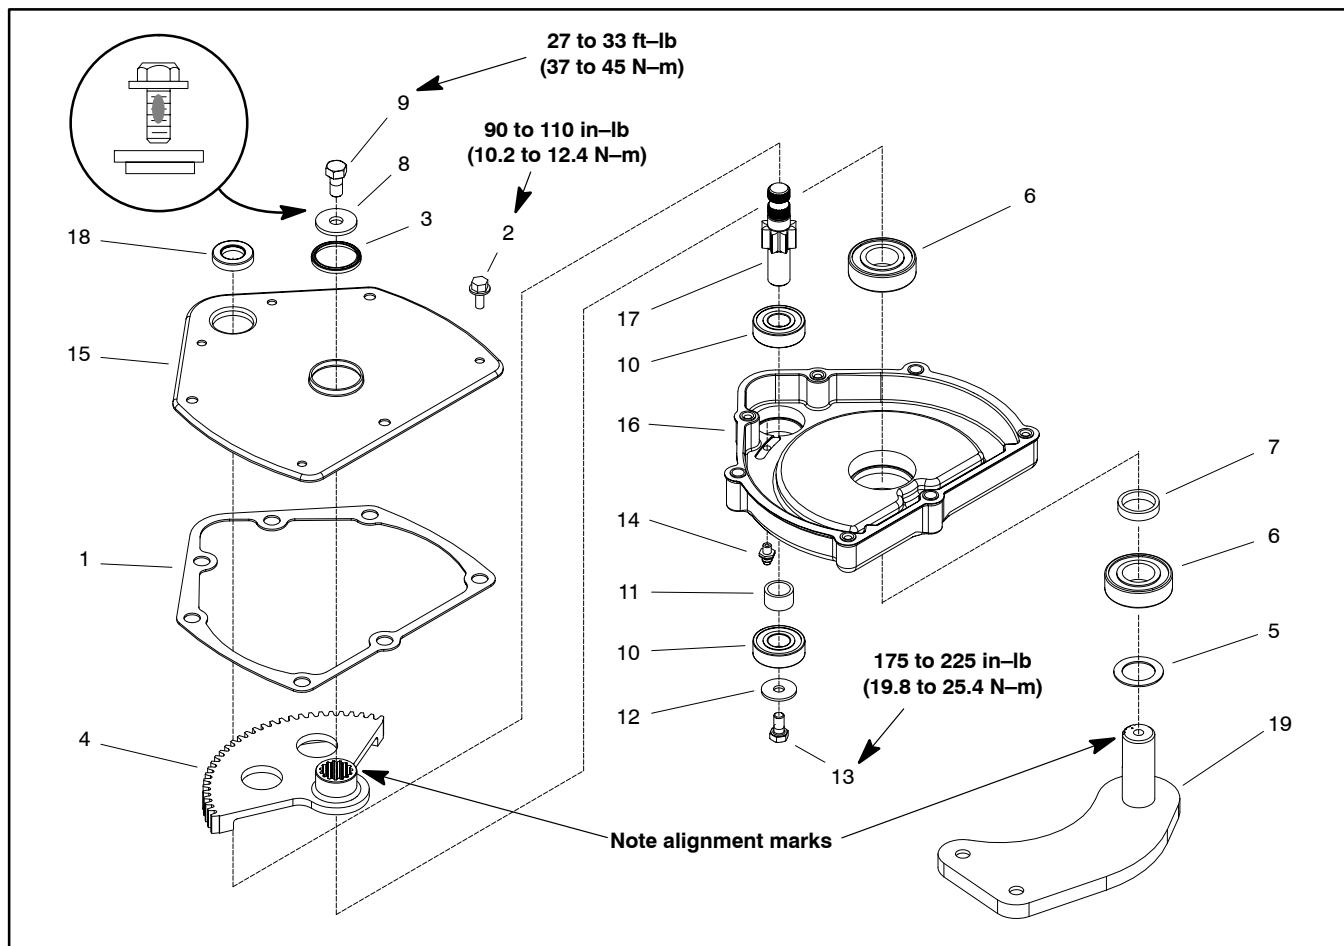

Figure 2
## Disassembly (Fig. 2)
## Assembly (Fig. 2)
2. If seals (items 3 and 18) were removed, press new seals into housing. Install seals with seal lips up.
7. Place gasket and steering housing cover onto the housing. Secure cover to housing with four (4) hex washer head screws. Torque screws from 90 to 110 in-lb (10.2 to 12.4 N-m).
**IMPORTANT: Flange head screw with patch lock (item 9) should be replaced whenever it is removed.**
8. Secure flange head screw with patch lock (item 9) and step washer (item 8) to the Pitman arm. Make sure to position step washer as in Figure 2. Torque screw from 27 to 33 ft-lb (37 to 45 N-m).
9. Secure cap screw (item 13) and flat washer (item 12) to the pinion gear shaft. Torque cap screw from 175 to 225 in-lb (19.8 to 25.4 N-m).